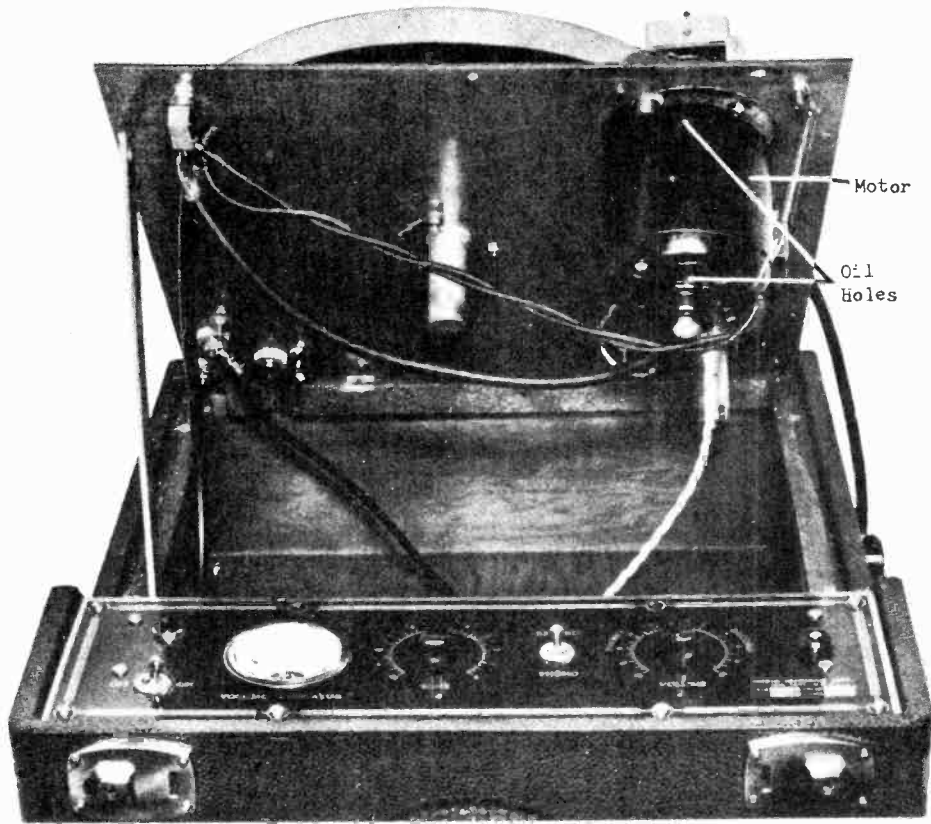

FIG. 12
2. Lubrication of the driving worm (34) and the main worm (35) is very essential and should be done every time the turntable bearing is lubricated. Use vaseline on these worms and also on the pinions (33) and pivots.
3. The motor need not be oiled more than once in three months. Too frequent oiling might cause defects in the windings of the motors. When oiling the motor, the entire panel mounting must be raised as shown in Fig. 12. The oil cups are shown; one at the bottom and one at the top. Use "3 in 1" oil.